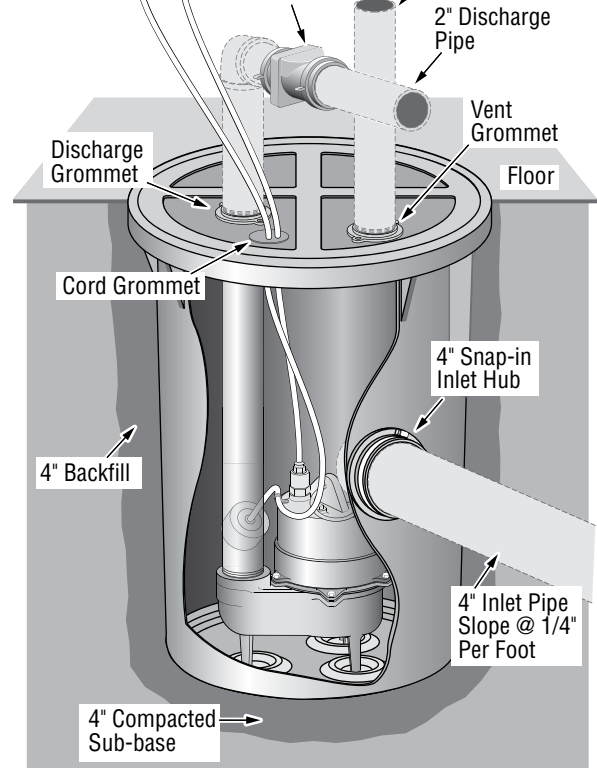

Figure 1 – Typical Installation
Installation Instructions. See Figure 1.
- Dig the hole for the sewage basin and the sub-base. The hole must be deep enough so the finished floor is flush with the top of the basin. Refer to Figure 1, Page 3.
11. Install the 2" check valve in the horizontal portion of the discharge pipe. See Figure 1. Make certain the flow indicating arrow points away from the pump. This check valve will keep the water from running back into the basin when the pump is not running.